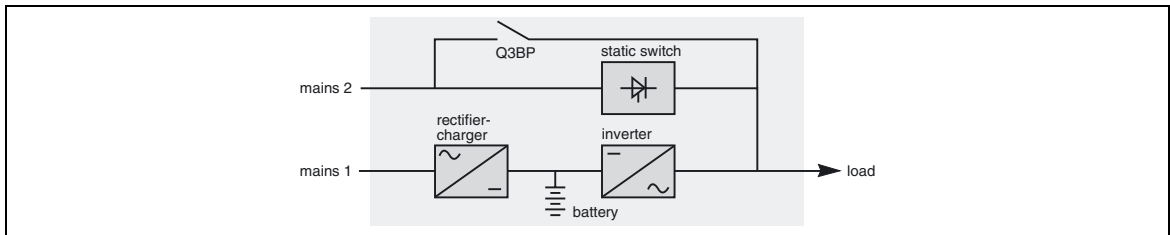

Fig. 1
- Single-unit or modular UPS: (figure 1)